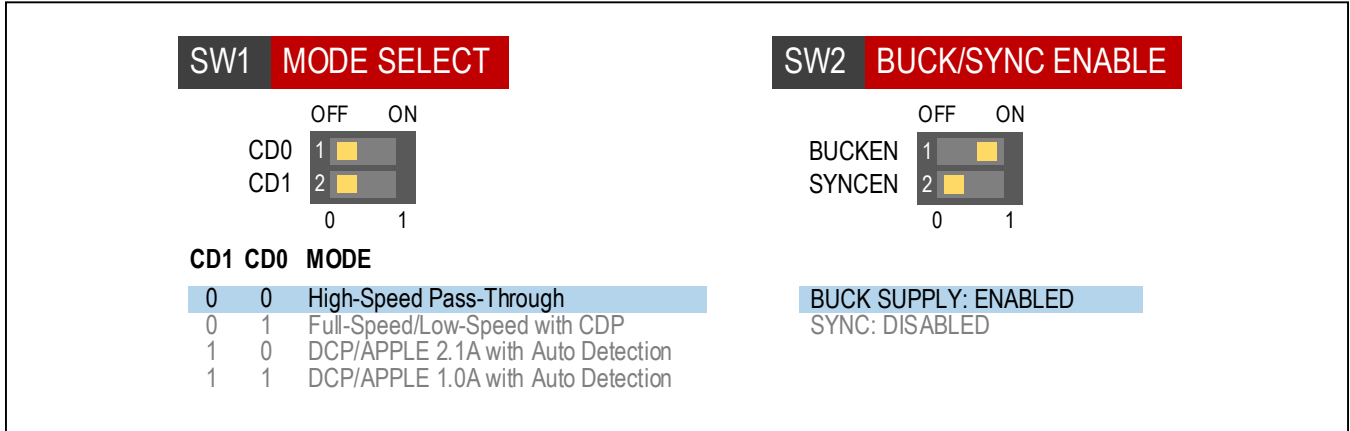

Figure 8. SW1 and SW2 Selections for SKIP Mode
- 1) Set DIP switches SW1 and SW2 as shown in Figure 8.